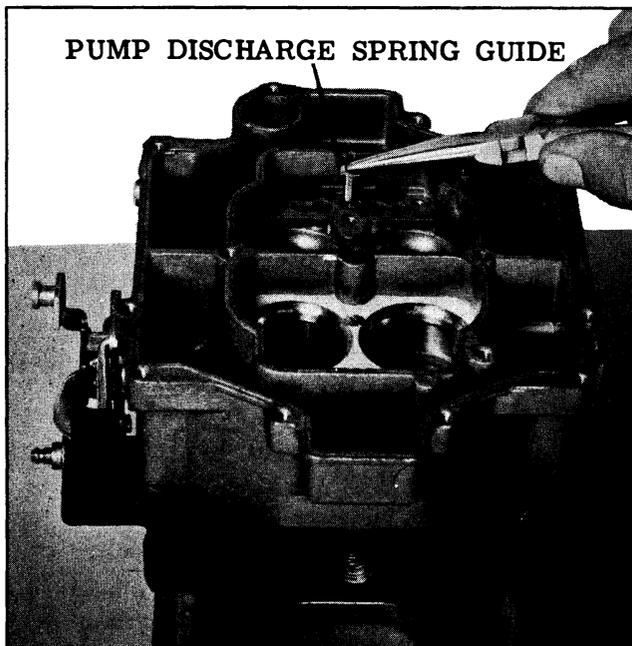

Fig. 8-97 Pump Discharge Valve
7. Remove the small "T" shaped pump discharge spring guide, then remove the small spring and steel ball. (See Fig. 8-97)